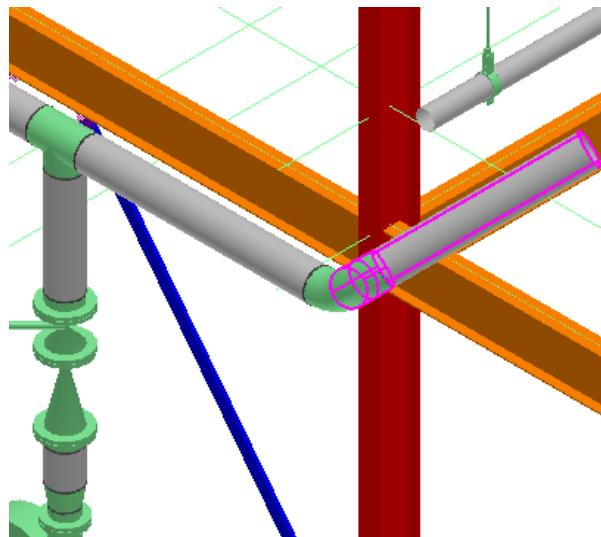

Figure 59: Selected Pipe Parts
3. Make sure the **Locate Filter** is set to **Piping Parts**. Now select the 45 deg elbow and pipe you have placed, as shown in Figure 59.